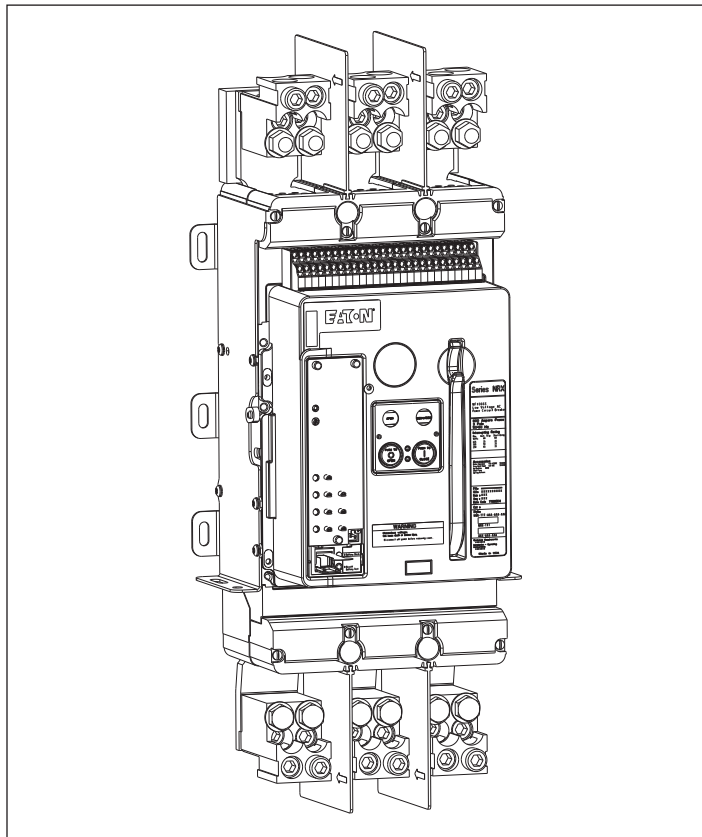

Figure 15. Step 7.3—Cable terminals connected onto bus extensions on both line and load side
3. Phase barriers made from a flexible rubber material are supplied with the kits. If using cable terminals connected to bus connector extensions, phase barriers must be installed to the right and left of the center cable terminal on both the line and the load sides (**Figure 15**). These phase barriers provide proper insulation integrity.